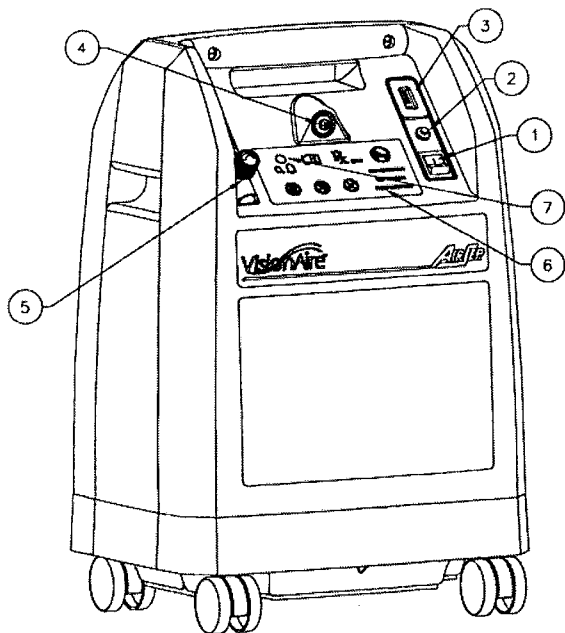

Figura I.1
I. 1. Panel frontal (figura I. 1)